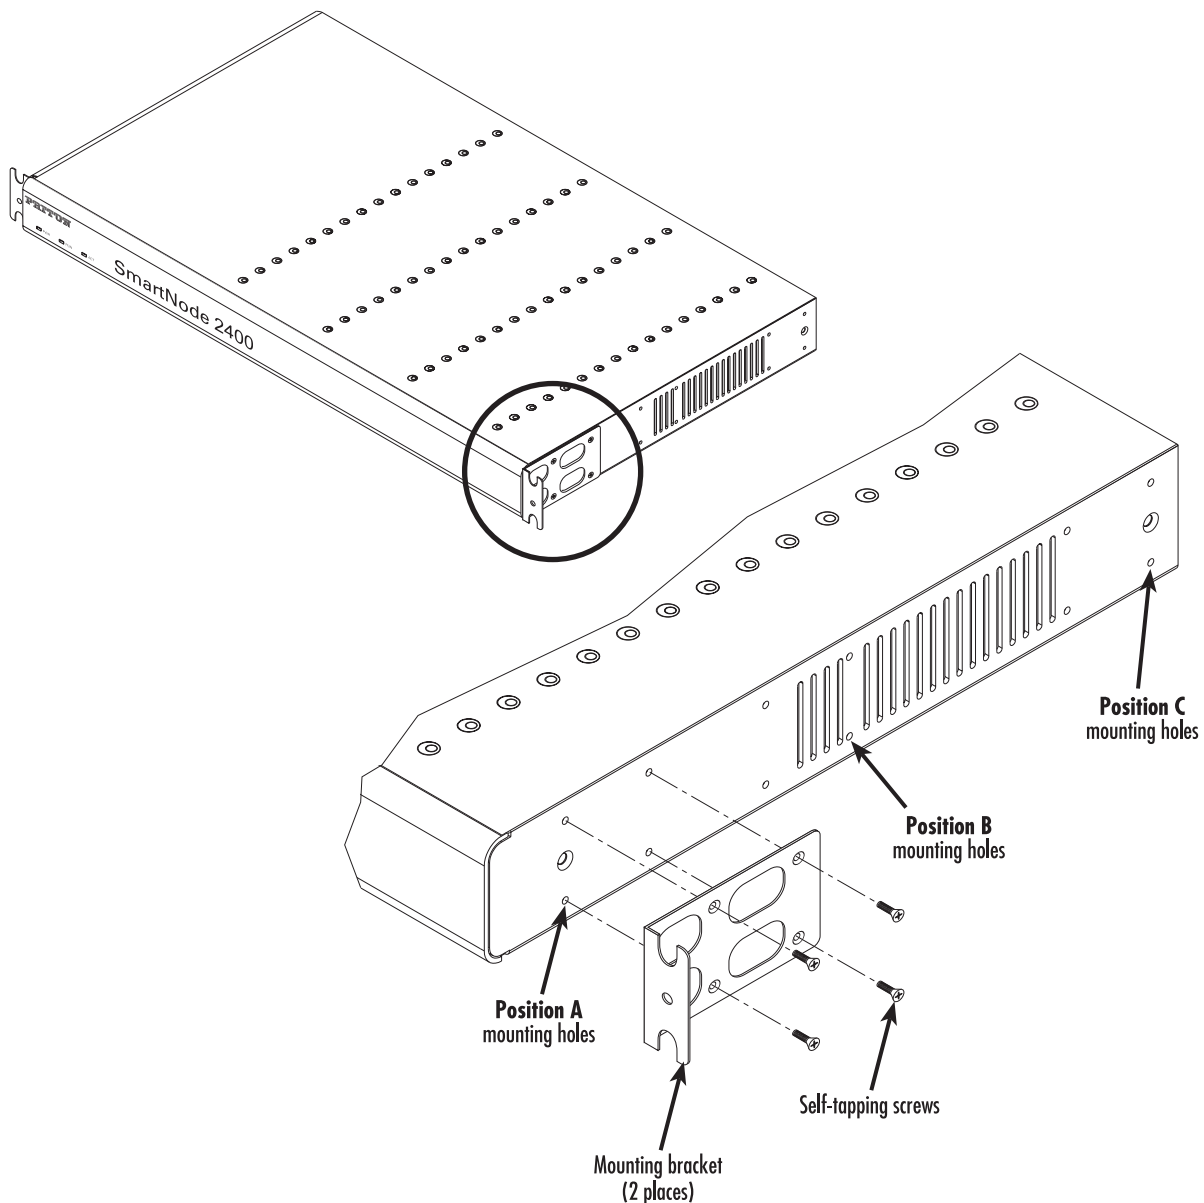

Figure 66. SmartNode 2400 rack mounting bracket location holes
1. Locate the two angled mounting brackets included in the installation kit pack. The bracket (see figure 66) is designed so you can have the 1.5 cm flange facing to the front or to the rear. There are four holes for countersunk screws on the long side of the bracket.
2. Attach a bracket to each side of the SmartNode 2400 with the four self-tapping screws provided. There are three mounting positions for the brackets (positions A, B, and C as shown in figure 66 on page 105), so choose the one that best suits your requirements.